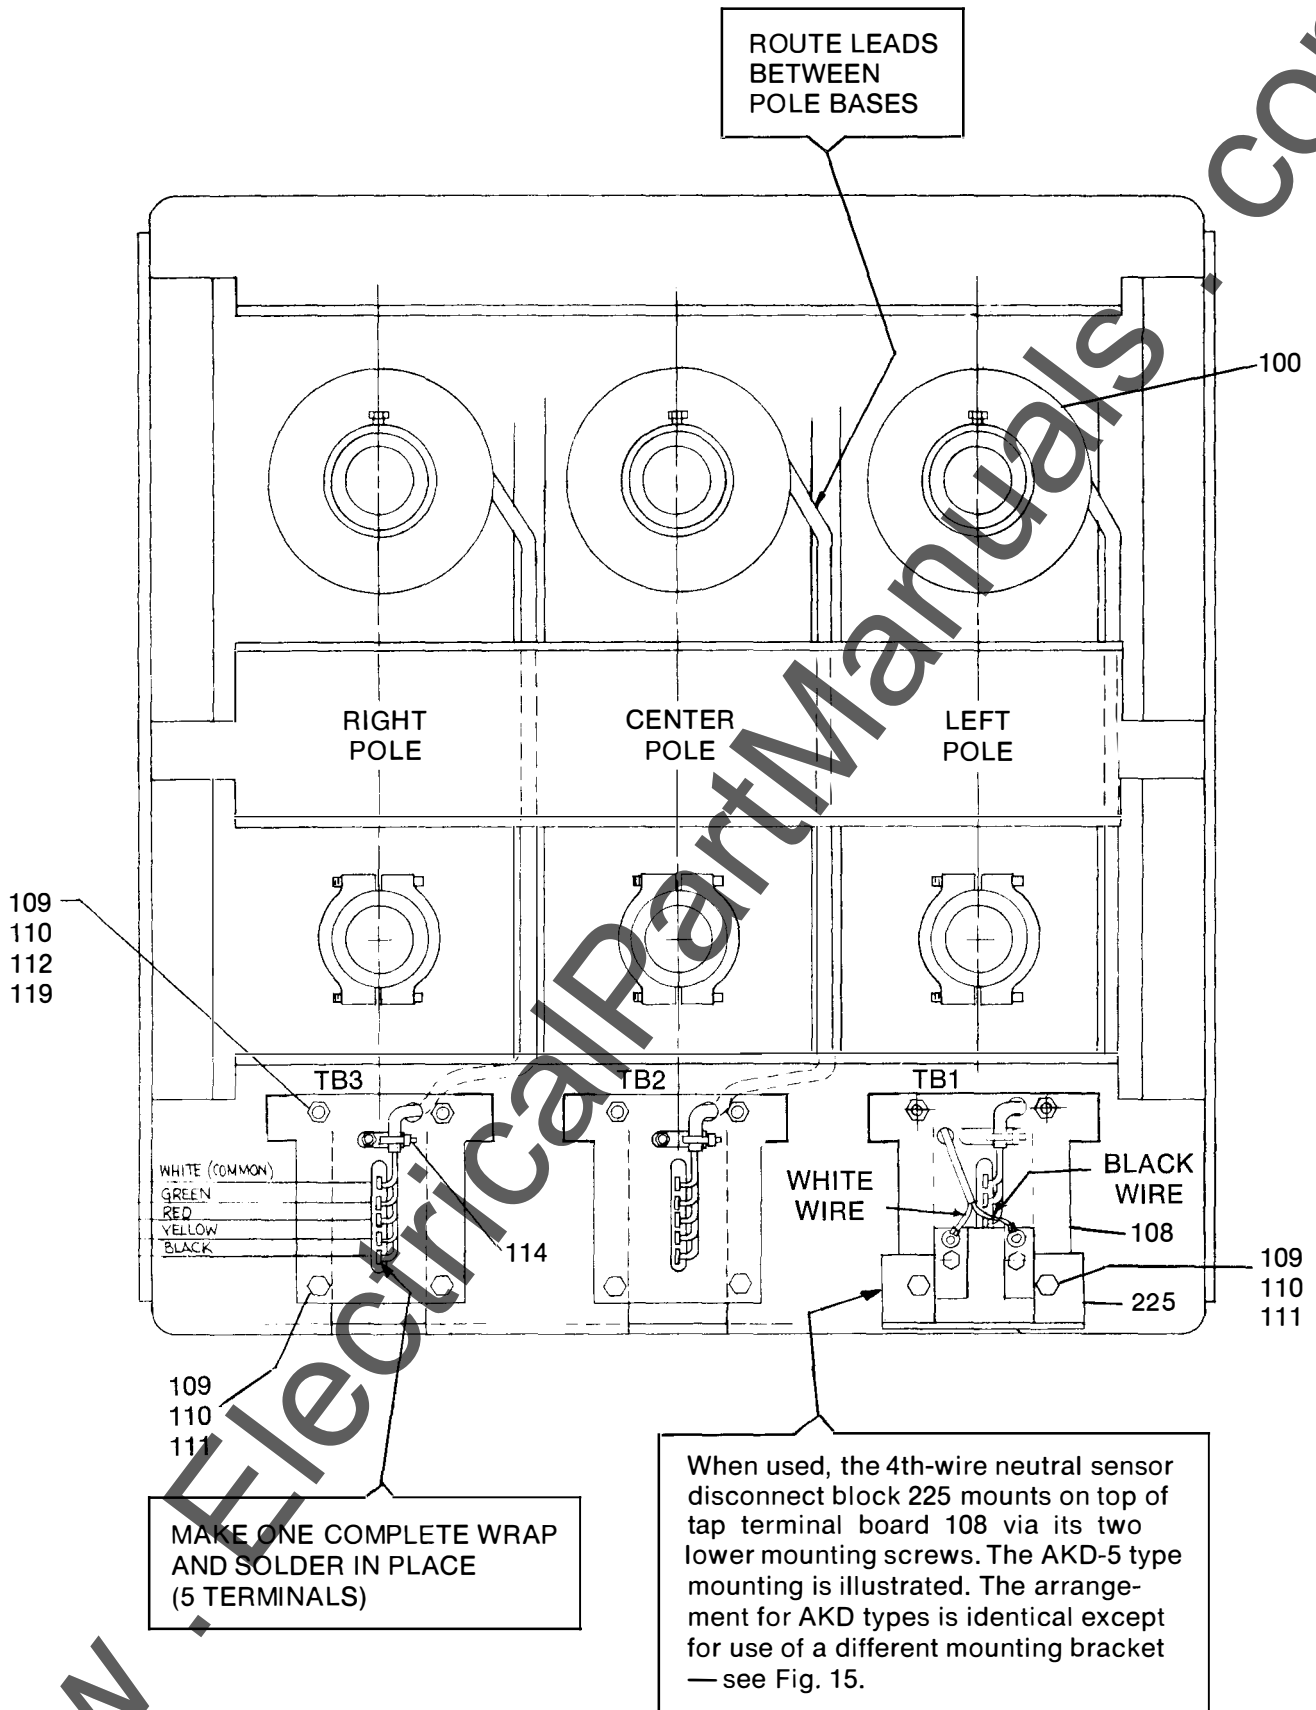
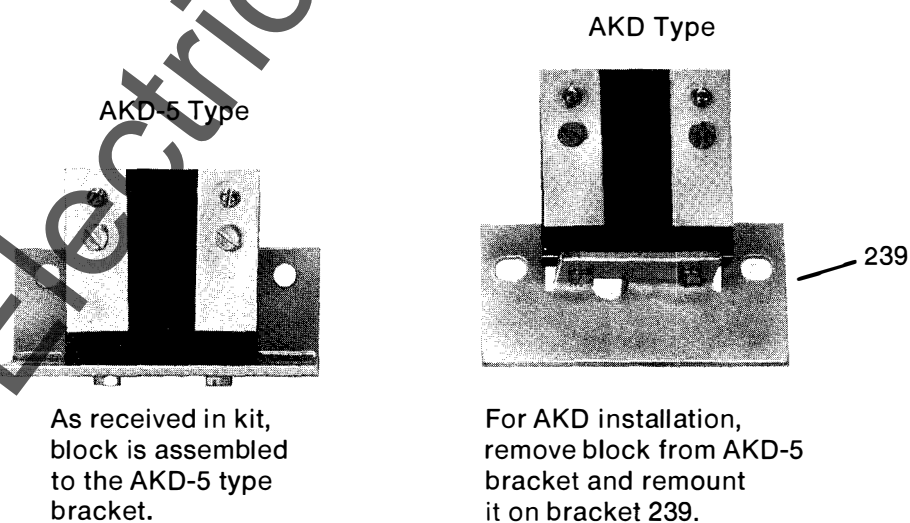

Fig. 13 — Typical AK-75/100 backframe conversion — rear view.
Fig. 15 — Selection of mounting brackets for attaching the 4th-wire neutral sensor disconnect block to AK-75 & 100 drawout breakers.
2. Mount the three phase sensors (100) on the upper primary studs of the breaker as indicated in Figs. 11, 12 and 13. Position each sensor so that its leads will exit between the pole bases per Fig. 13, then tighten the rings.
3. Mount the three sensor terminal boards (TB1, TB2 and TB3) to the rear of the back frame as shown in Fig. 13, using hardware provided.
4. Form each sensor's leads downward between the pole bases and thru the hole in its terminal board per Fig. 13, then wire tie and solder to the terminals as indicated. Be sure to position wire colors as shown.
5. On breakers being equipped with 4-wire ground fault, mount neutral sensor disconnect block 225 below the left pole on the rear surface of the back frame per Fig. 13; be sure to select the proper mounting bracket as instructed in Fig. 15.